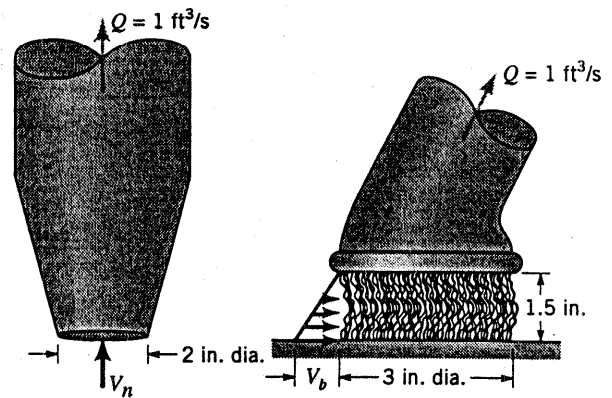

FIGURE P5.2
5.2 Various types of attachments can be used with the shop vac shown in Video V5.2. Two such attachments are shown in Fig. P5.2—a nozzle and a brush. The flowrate is $1 \text{ ft}^3/\text{s}$. (a) Determine the average velocity through the nozzle entrance, V_n . (b) Assume the air enters the brush attachment in a radial direction all around the brush with a velocity profile that varies linearly from 0 to V_b along the length of the bristles as shown in the figure. Determine the value of V_b .